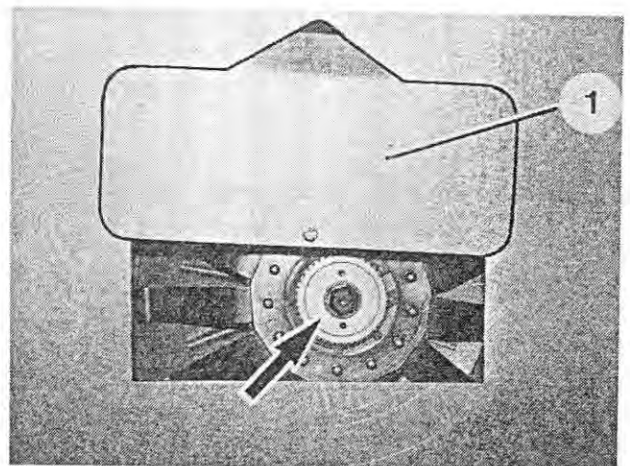

Fig. 55
1. Raise the maintenance plate (Figure 55/1) and use a cloth to remove the grease which has come out of the multiple spline shaft (Figure 55/arrow).